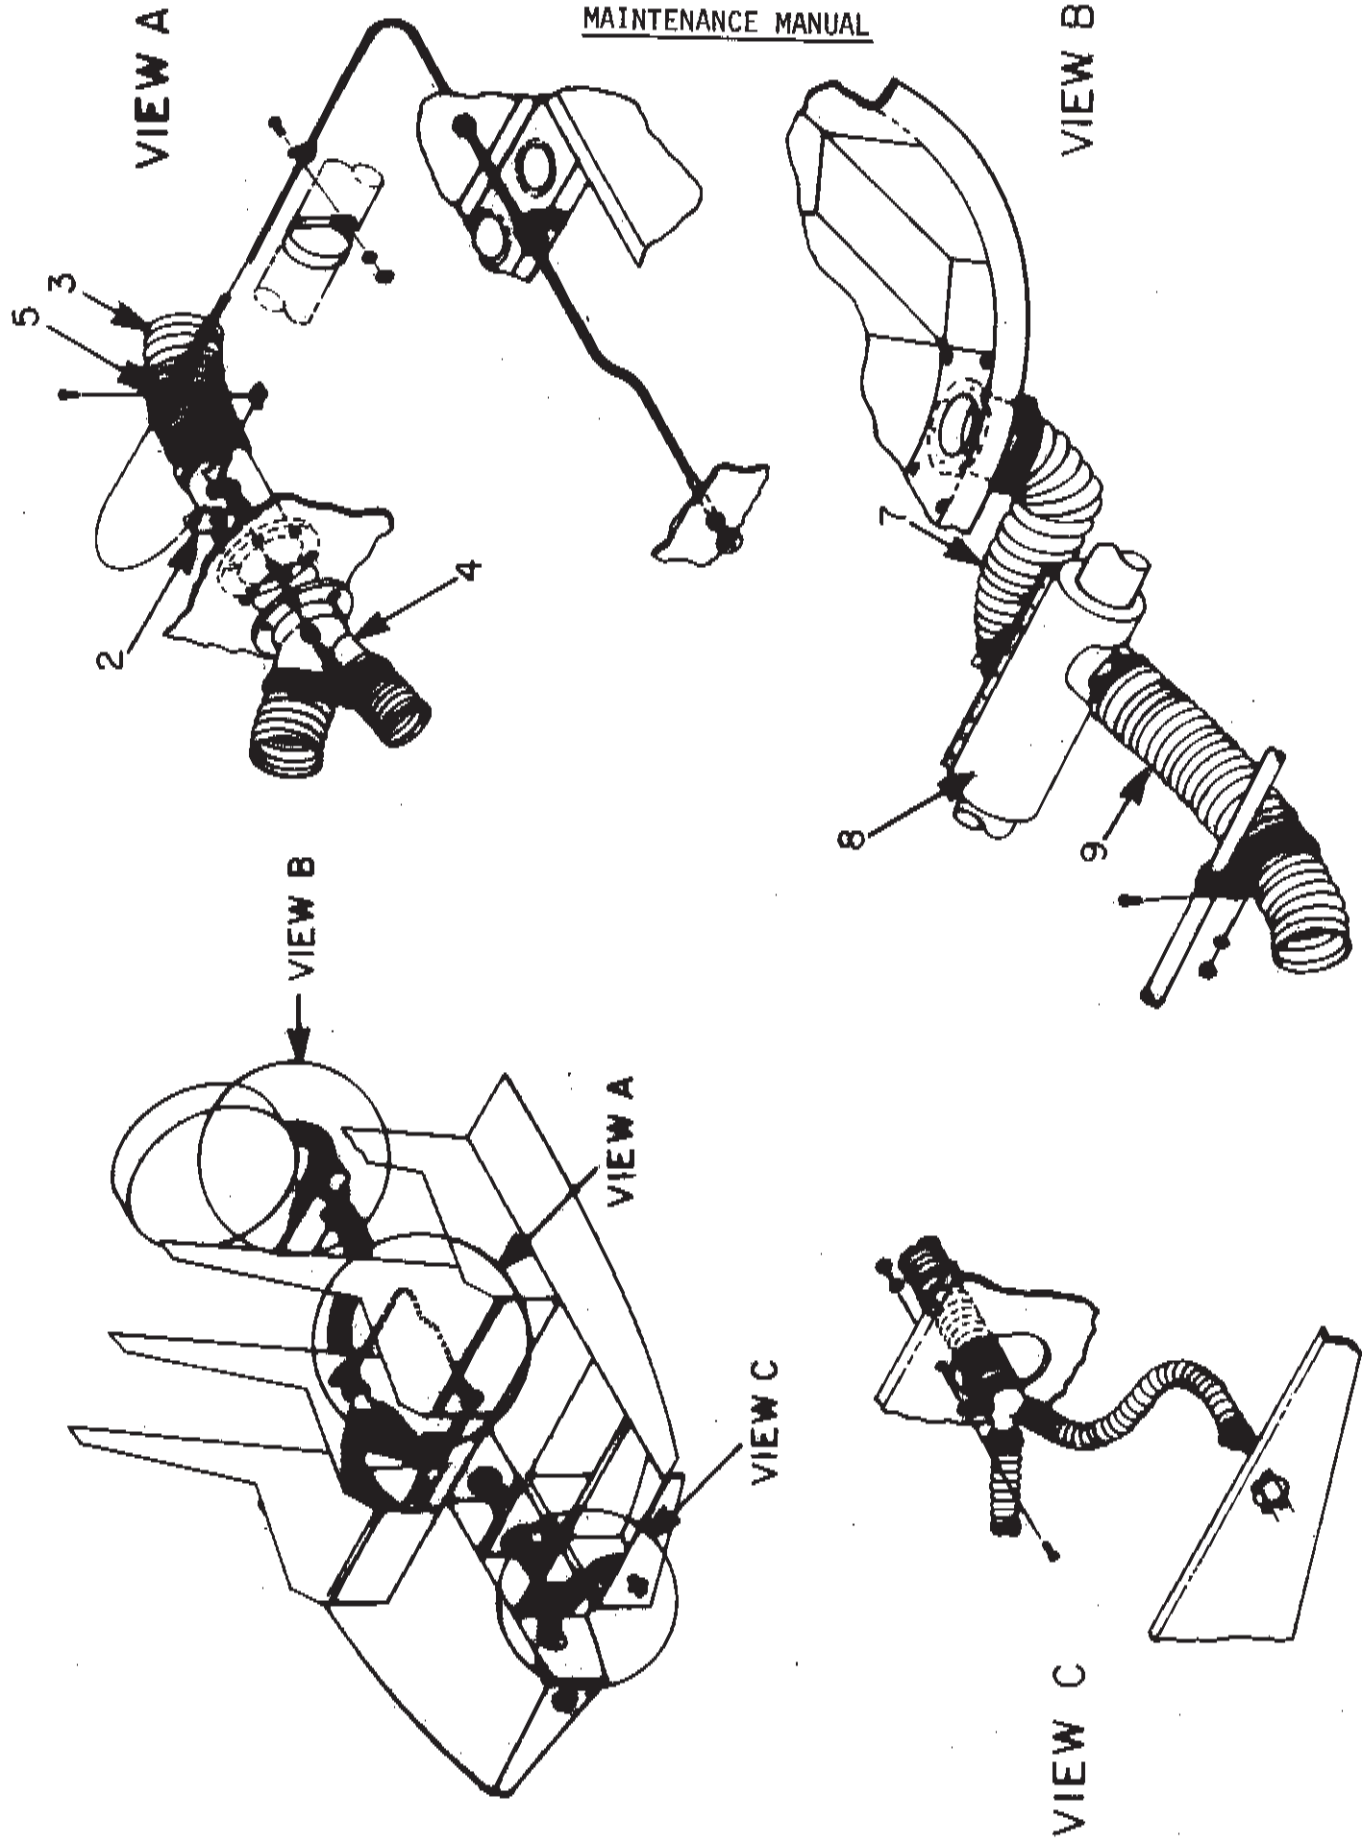

FIGURE 14-1
(1) Heater Valve - Removal (See Figure 14-1, View A)
- (c) Disconnect and remove hose (3) from aft side heater valve.
- (d) Remove the attachment screws securing heater valve to hose divider (4) and firewall. Remove valve.
- (2) Heater Valve - Installation (See Figure 14-1, View A)
- (a) Install heater valve (2) with valve control lever on top and align to hose divider (4) on firewall.
- (c) Connect heater control cable (1) to heater valve and adjust. See heater control cable installation.
- (d) Connect hose (3) to aft side of heater valve and secure.
- (1) Heater Control Cable - Removal (See Figure 14-1, View A)
- (b) Disconnect control cable (1) at the heater valve (2).
- (c) Disconnect cable clamp (6) from forward landing gear cross tube.
- (2) Heater Control Cable - Installation (See Figure 14-1, View A)
- (a) Slide cable (1) through seat structure and install nut and lock washer on inboard side. Secure nut to mount cable control knob in place.
- (b) Connect cable (1) to heater valve (2) and secure with clamp (5).
- (e) Connect cable clamp (6) at landing gear cross tube.
- (1) Heater Shroud - Removal (See Figure 14-1, View B)
- (a) Remove hoses (7) and (9) from heater shroud (8).
- (2) Heater Shroud - Installation (See Figure 14-1, View B)
- (a) Install heater shroud (8) around heat exchanger with shroud seam on top.
- (c) Connect hoses (7) and (9) to heater shroud and secure with hose clamps.